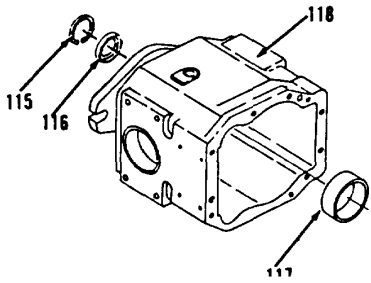

Figure 10-38.
- 38. Install bearing cup (117), new seal (116) and ring (115) in body (118, Figure 10-38).